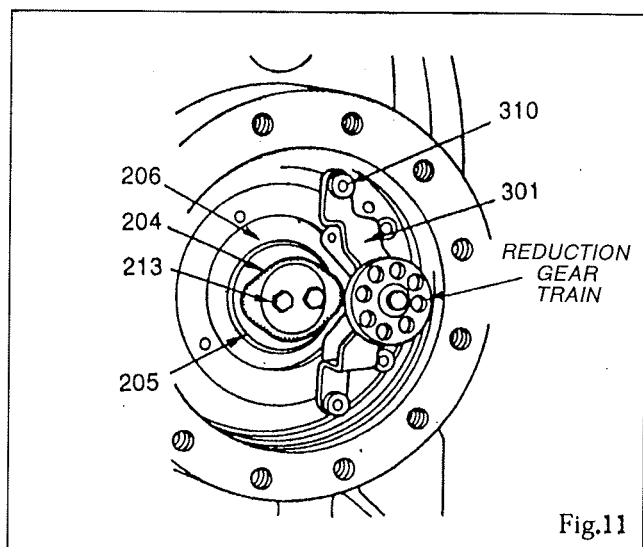

Fig.11
② Remove driving uniform-motion gear (204). To do this, take off two bolts (213) and remove driving uniform-motion gear (204) complete with its boss (205).
③ Draw bearing holder A (206) out. To do this, take off two bolts and, making use of the two slots (M12) provided for removing the bearing holder, draw it out (Fig. 11).